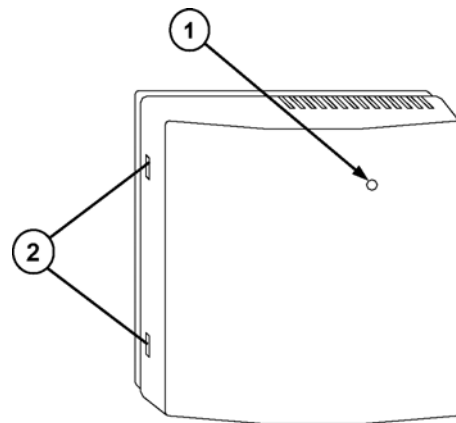
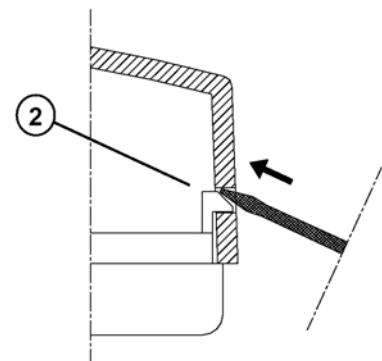

Fig. 1
Fig. 2
The two-colour led in the frontal panel (1) Fig. 1 may turn-on and be either red or green. On start-up, when the receiver unit DRP A83 M01 is supplied the led (1) flashes in a sequence “green-red-green-red” to show the correct working of the device. Afterwards the led becomes active according to its normal functioning and the receiver starts to decode the signals issued by the transmitter as its normal working.
In Fig. 1 is visible the external appearance of the DRP A83 M01.
To open the plastic case, remove the frontal panel using a small screwdriver to drive the plastic teeth (2) shown in Fig. 1 and Fig. 2. Apply a light pressure with the screwdriver between the tooth and the hole in the plastics, but do not push directly on the tooth in order not to break it. The Fig. 2 represents the plastic box' section and it shows how to handle the screwdriver correctly.